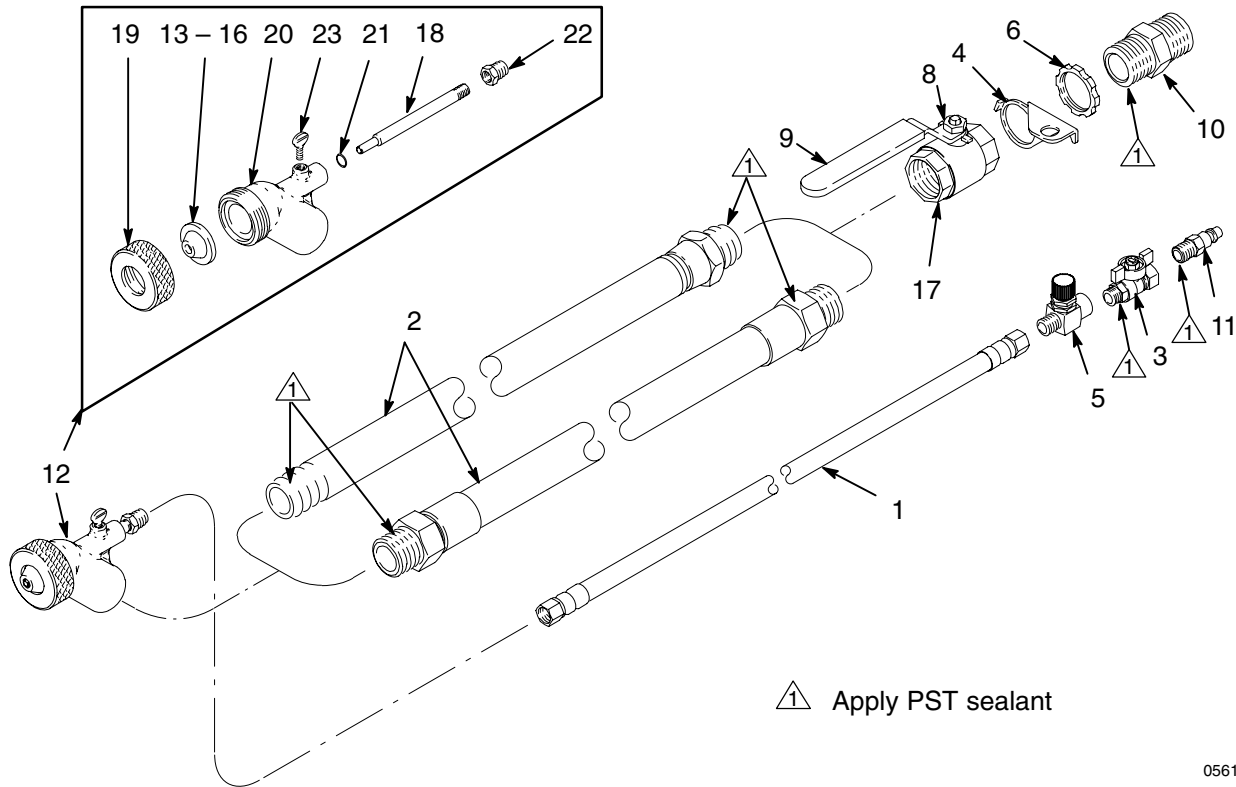

Fig. 1
**Material flow adjustments** (Fig. 1)